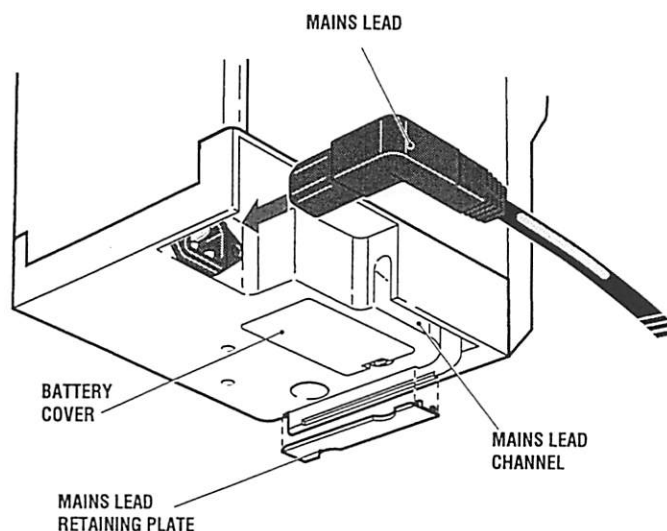

Fig. 11 Fitting The Mains Lead
3. Remove the mains lead retaining plate illustrated on Fig. 11 and fit the Ohmeda mains lead firmly into the socket of the vaporizer. Feed the mains lead into the mains lead channel and then clip the mains lead retaining plate back into the base.